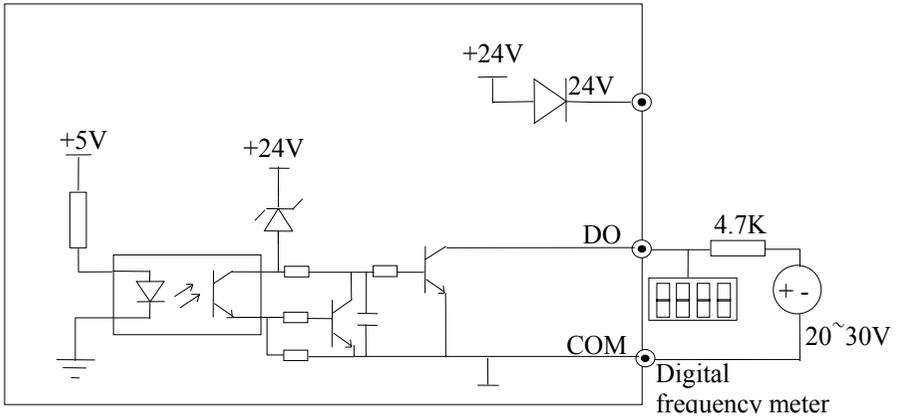

Fig. 2-29 Wiring method 2 of DO as pulse output
4) Multi-function output terminals / Pulse output terminal DO as Pulse output can also use the external 9~30V power supply and the wiring is shown in Figure 2-29.